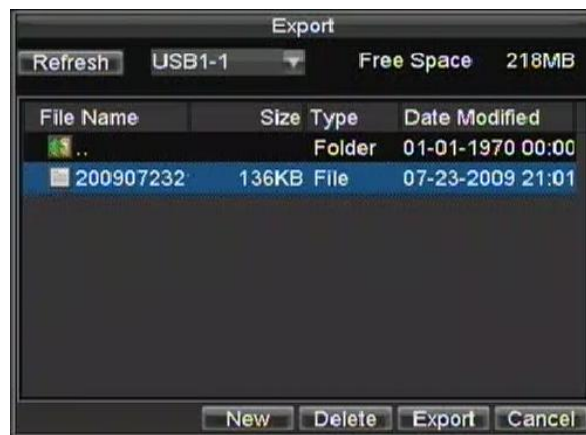

Figure 17. Log Search Export Menu
6. Log files can also be exported onto a USB device. To export a log file, connect a USB device to the DVR, select the log file to export and click the Export button. This will take you to the Log Search Export menu, shown below in Figure 17. Click the Export button to export log onto USB device. The exported file will be named according to the time it was exported (i.e. 2000062991627.txt).